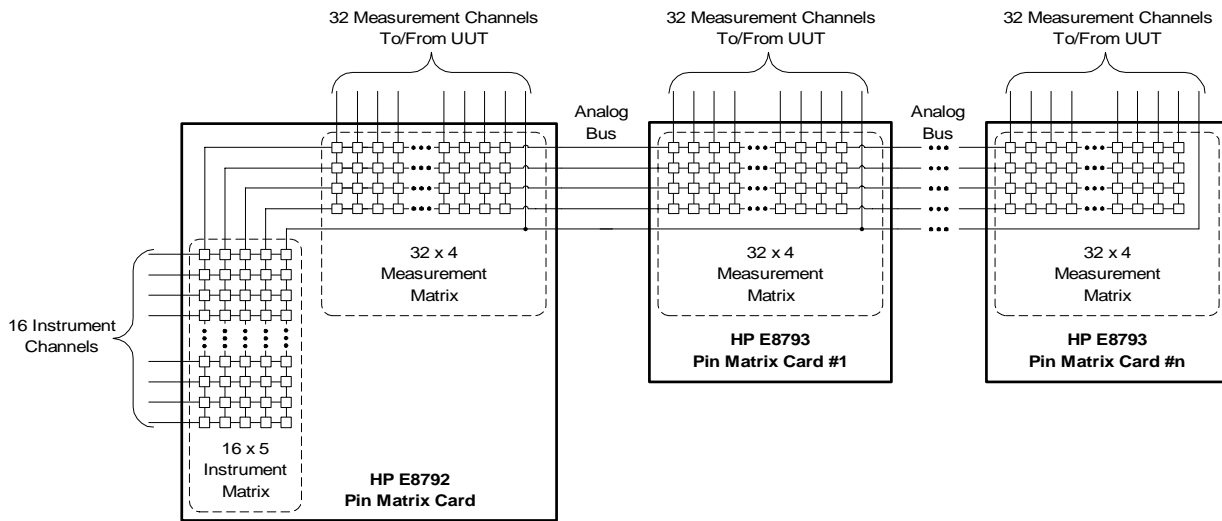
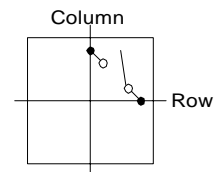

Figure 4-1. Pin Matrix Cards Conceptual Overview
Figure 4-3. HP E8793A Detailed Block Diagram
Both the HP E8792A and E8793A 32-Pin Matrix Modules contain a 32 x 4 Measurement Matrix for switching signals to and from the Analog Bus. The HP E8792A also contains a 16 x 5 Instrument Matrix that connects external measuring instruments to the Analog Bus. Figure x is a simplified block diagram showing how the HP E8792A and E8793A are typically used together in a system. As shown in Figure 4-1, if you need more UUT connections, simply add more HP E8793A 32-Pin Matrix Cards to the bus.
**Note** The AUX channels are not shown in Figure 4-1. Refer to Figure 4-2 and Figure 4-3 for detailed schematics of the 32-pin matrix cards.
Figure 4-2 on page 80 is a detailed block diagram of the HP E8792A 32-Pin Matrix Card and Figure 4-3 on page 81 is a detailed block diagram of the HP E8793A 32-Pin Matrix Card.
As shown in Figure 4-2 and Figure 4-3, the Measurement Matrix is arranged in 32 rows that can be connected to any of four columns on the common Analog Bus. Closing a matrix relay connects a row to a column on the card. The columns are connected to the Analog Bus which carries the signal between the UUT (unit under test) and instruments connected to the Analog Bus through the HP E8792A. This 32 x 4 structure lets you connect any system resource to any pin on the UUT. This matrix along with the unswitched UUT Common allows as many as four system resources to be connected simultaneously.